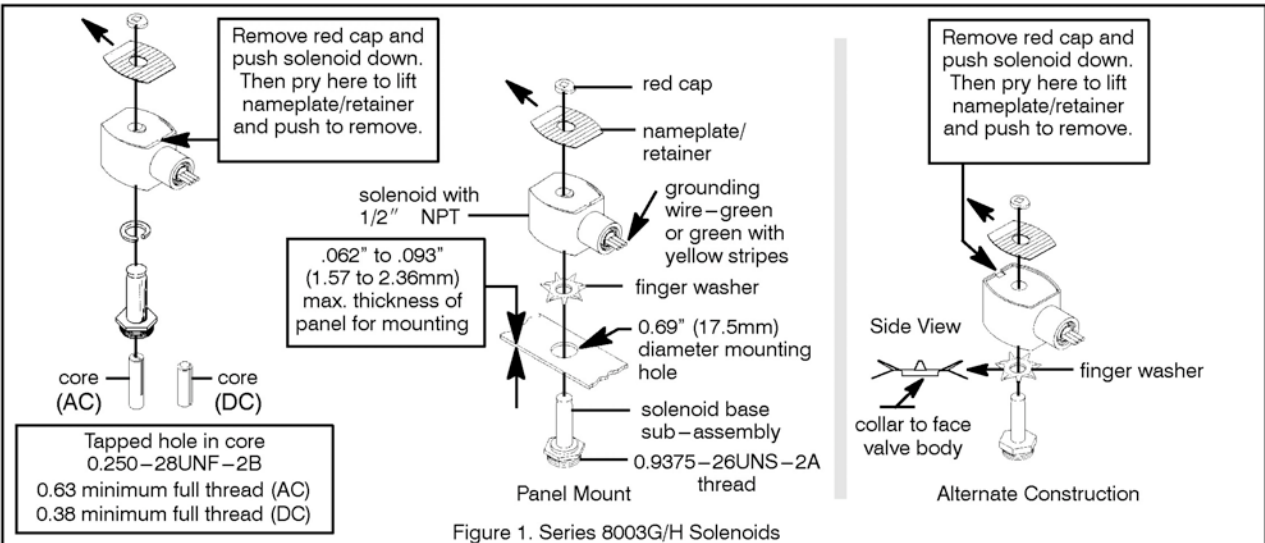

Figure 1. Series 8003G/H Solenoids
**Installation of Panel Mounted Solenoid** (See Figures 1 and 2)